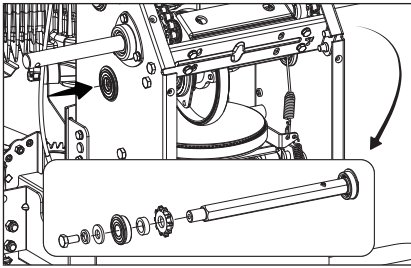

Figure 68
5. Slide out the hex shaft. Punch the shaft out from the left side. Make sure all pieces shown are accounted (only the shaft is removed, the chain sprocket wheel will remain on the chain). (Fig. 68)